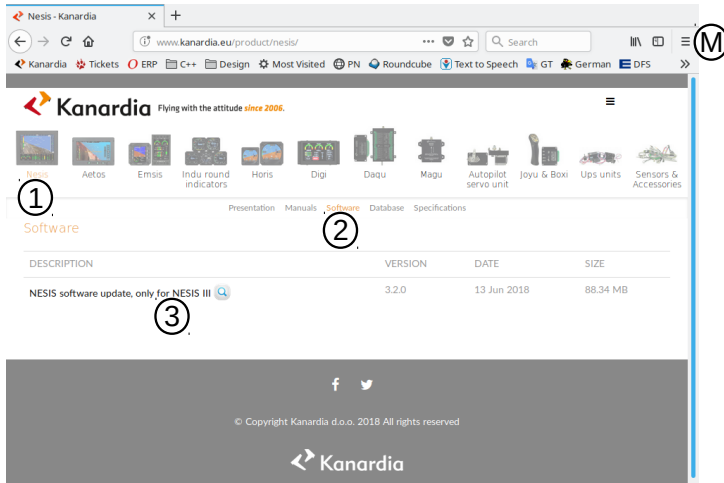

Figure 4.1: Illustration of the Aetos software download page. Usually only the latest update is available.
- ① Open the home page and select *Aetos* icon on the top. This leads to Aetos specific page.
- ② Select *Software* next. This opens a page with Aetos specific software. An example is shown in Figure 4.1.
- ③ Click on the link to start download process of selected software file.
1. Click on the  $\equiv$  menu symbol. See label (M) in Figure 4.1.